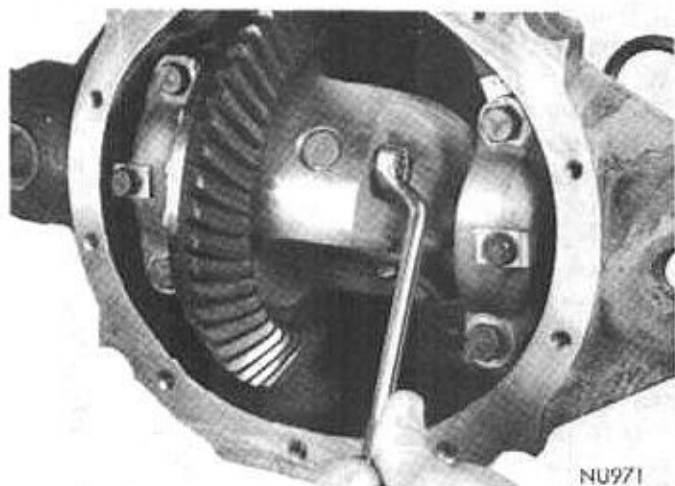

Fig. 3—Removal or Installation of Differential Pinion Shaft Lock Screw
(1) Raise vehicle to a good desirable working height and remove the rear wheel and tire assembly and brake drum.
(2) Clean all dirt and foreign material from area of housing cover.
(3) Loosen housing cover and drain lubricant from rear axle and proceed to remove cover.
(4) Turn differential case to make differential pinion shaft lock screw accessible and remove lock screw and pinion shaft (Fig. 3).